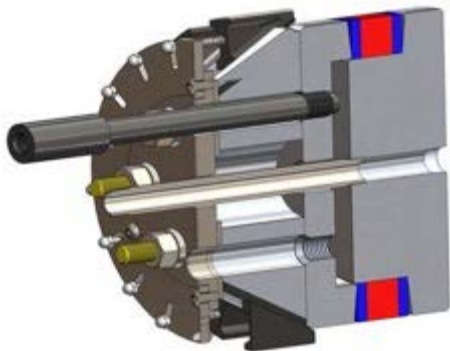

Figure 21: Inserting and Threading Lifting Standoffs into the Plug
12.1 Insert the **Lifting Standoffs (26)** into the two holes on top of the **Spring Plate Hub (18)**. Hand-tighten both standoffs until they are fully seated, as shown in Figure 21..